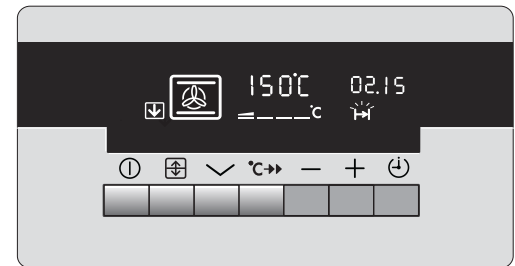

Fig.10.
- iv) To set the length of cooking time, press the Time Selector button until the 'Cook Time' indicator (  ) is illuminated. Press the increase control button (+) until the required length of cooking time is displayed, e.g. 2 hrs 15 mins as Fig. 10. Depress the decrease control button (-) if necessary.